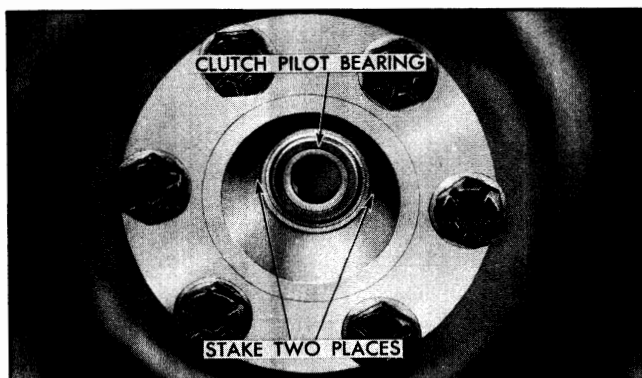

Fig. 6-74 Clutch Pilot Bearing Staked
3. If clutch pilot bearing is to be replaced, use cold chisel to remove staking in end of crankshaft which keeps bearing in place when transmission is removed (Fig. 6-74). Remove clutch pilot bearing from hole in crankshaft.
If bearing is a snug fit in crankshaft, use puller J-4383 and slide hammer J-2619-A or J-942 to remove bearing. When installing new bearing see that hole in crankshaft is thoroughly clean. Install new bearing with shielded side toward transmission. Start bearing into hole and tap into place by using clutch pilot bearing installer J-5736 against outer race. Stake slightly as shown in Fig. 6-74, to keep bearing in place in case transmission is removed in the future.